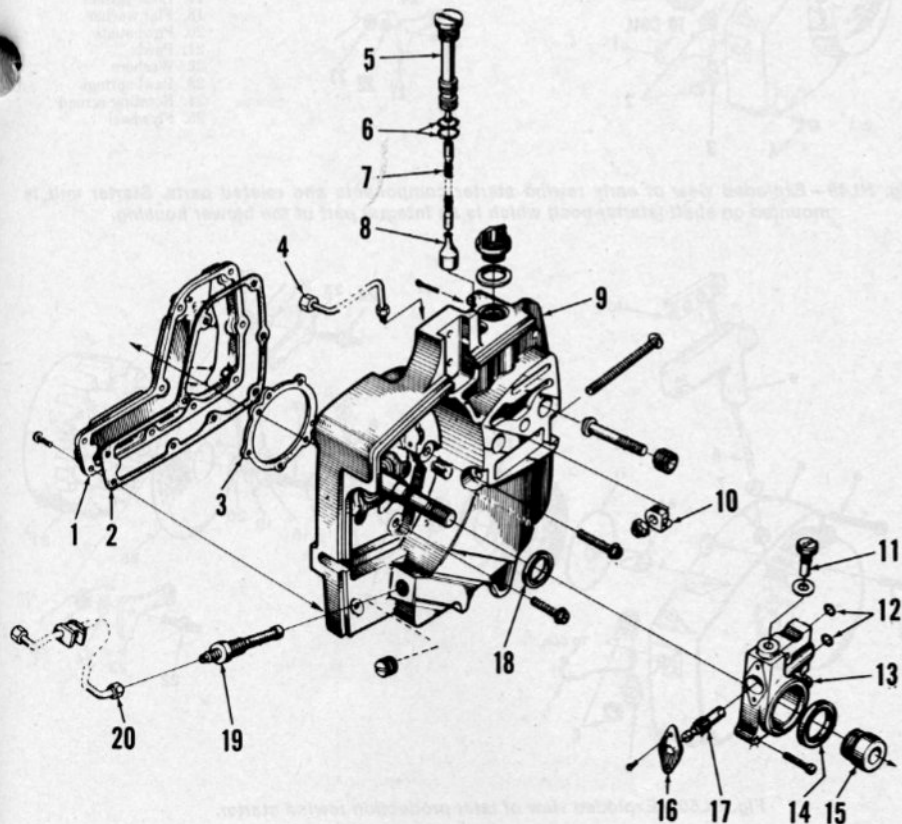

Fig. HL43 - Exploded view of automatic chain oil pump on models so equipped.
AUTOMATIC CHAIN OILER PUMP. Refer to Fig. HL43 for exploded view of typical automatic oiler pump installation, and to Fig. HL44 for schematic view showing pump operation.
The automatic oiler pump is accessible after removing the clutch assembly from crankshaft and disconnecting oil lines. Pump plunger (17—Fig. HL43) and body (13) are available as a complete assembly only which includes flange (16), cam